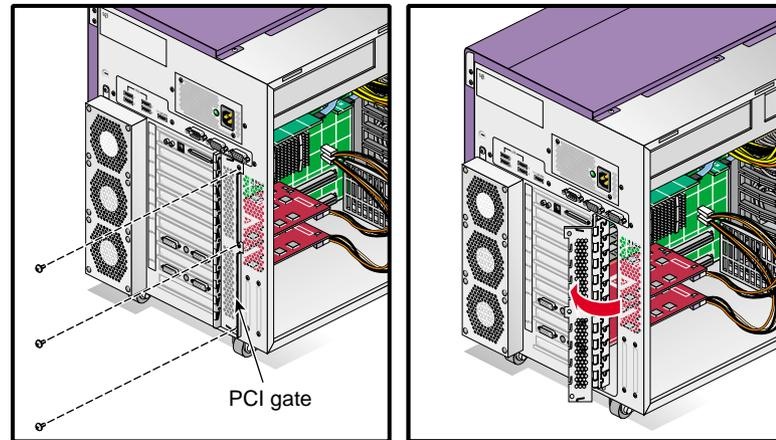

Figure 3-23 Opening the PCI Gate
1. Remove the three screws that secure the PCI gate to the enclosure. Then open the PCI gate (see Figure 3-23).